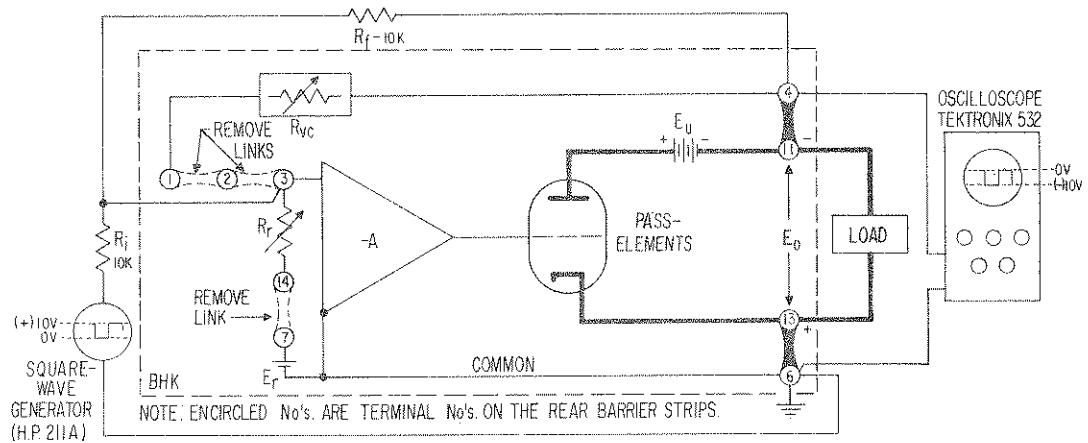

FIG. 3-13 SETUP FOR LAG NETWORK ADJUSTMENTS.
- b) Connect test setup as shown in FIG. 3-13.